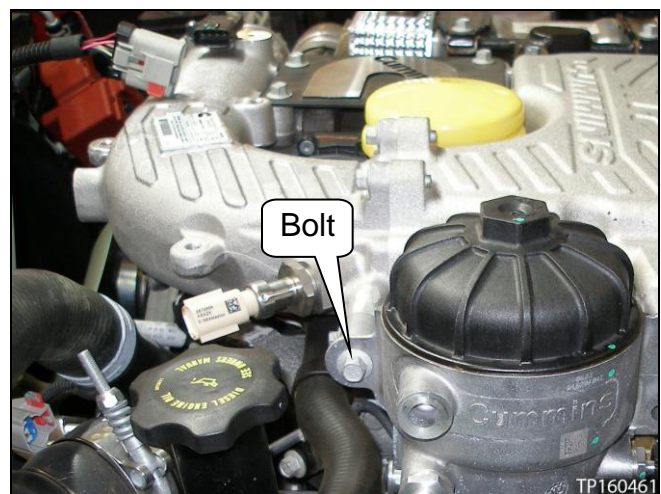

Figure 94
37. Mount the stage 2 fuel filter assembly with the one bolt (see Figure 94).
- Also apply the torque above to the bolt shown on page 39, Figure 94.